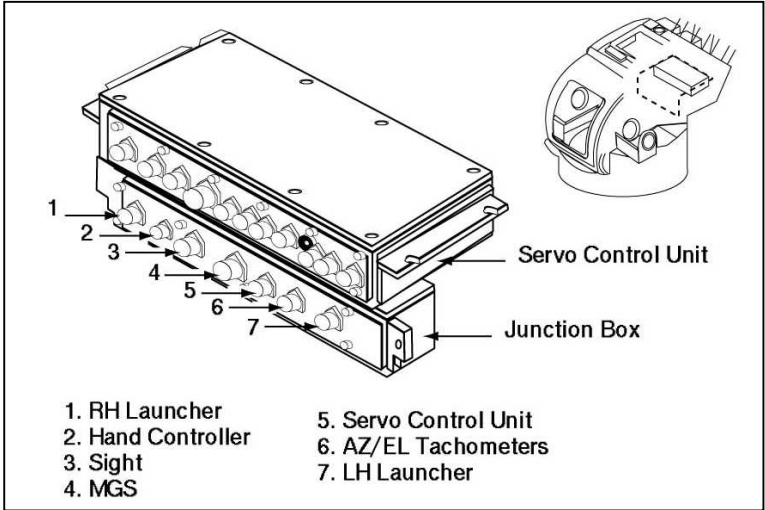

Figure 4-2-4: Junction Box
17. **Junction Box.** The junction box is located below the servo control unit behind the gunner. The box connects the signals between the various TUA weapon system components, much as the traversing unit does in the tripod mounted TOW 2 (see Figure 4-2-4).